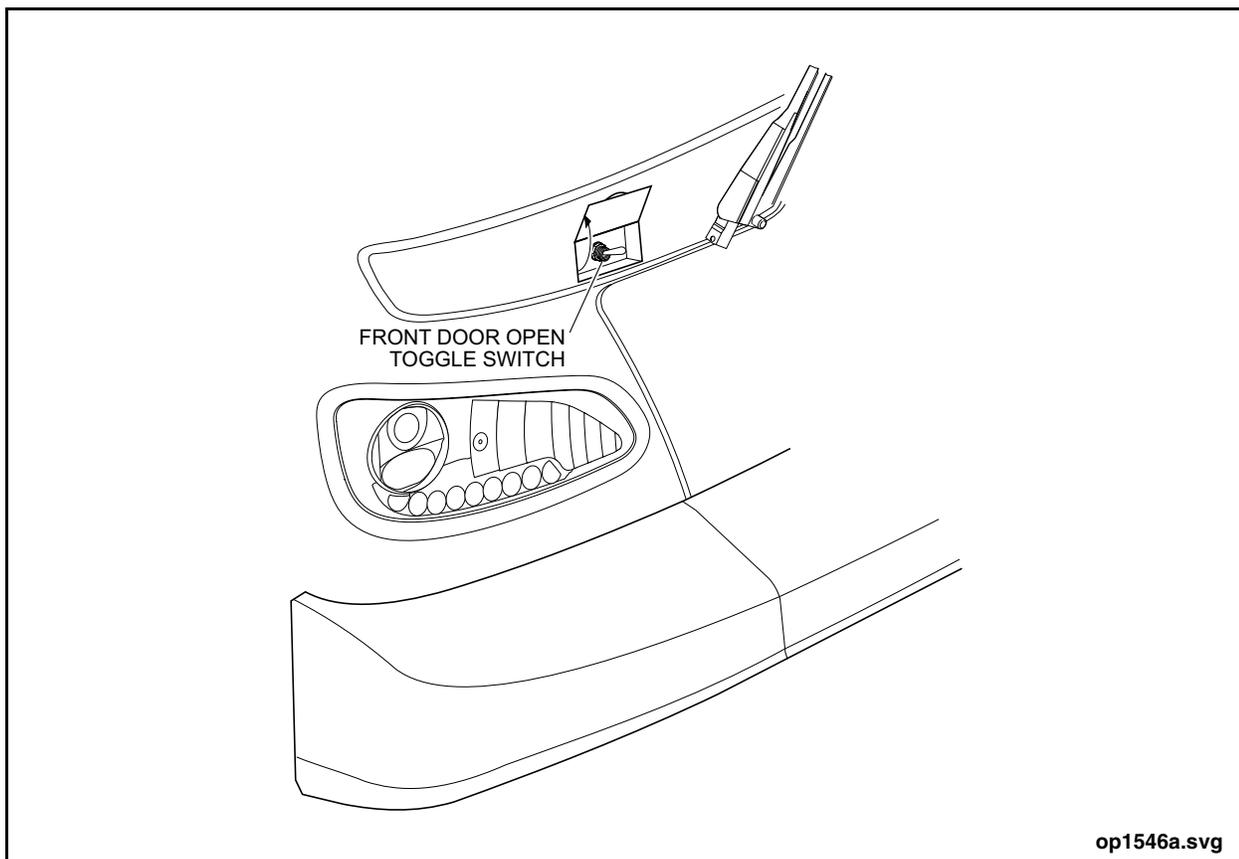

Figure 8: To Enter the Vehicle
- a. Slide the front portion of the driver's window back to gain access to the door manual control valve. See "Figure 8: To Enter the Vehicle" on page 22.